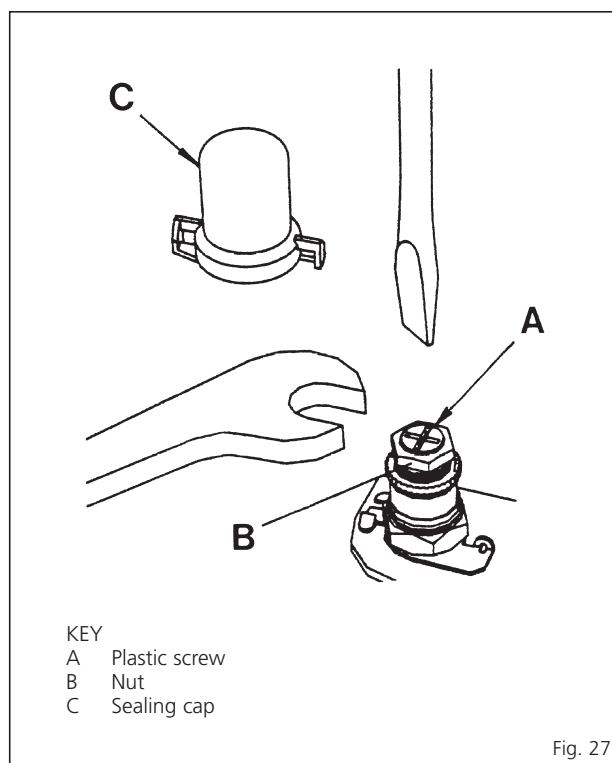

Fig. 27
- remove the sealing cap of the proportioning unit (C fig. 27) by rotating it/turn anticlockwise;
- using a 10 mm spanner, turn nut (B fig. 27) to attain the following required D.H.W. max. burner pressures:
- set the minimum pressure of 1.5 mbar (2.0 mbar for **"SUPER 102"**) by holding nut (B fig. 27) in position with a 10 mm spanner and rotating the plastic screw (A fig. 27) with a screwdriver until the correct pressure is obtained.
- refit the proportioning unit sealing cap (C fig 27);